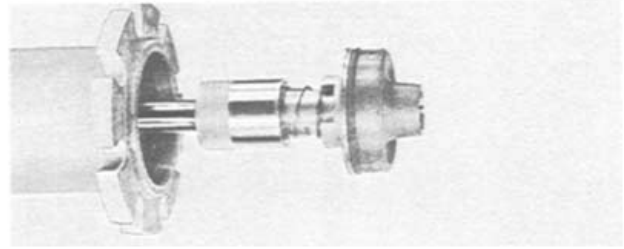
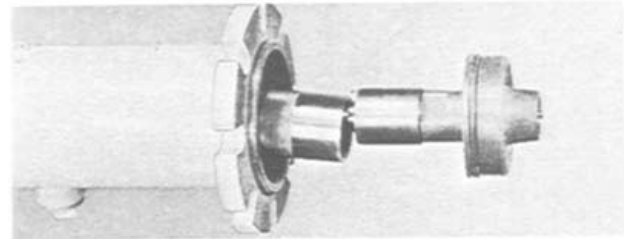

FIGURE 22
FIGURE 23
- b. Attach plug inserting tool with the completion plug to the inserting bar of the stopping machine. **Figure 22.**
- (1) Insert lug on top of plug inserting tool into matching recess or slot in inserting bar.
- (2) Screw coupler sleeve to plug inserting tool threads.
- b. Screw tool tightly into the right hand inside threads of the inserting bar. The coupler sleeve is not used with this plug inserting tool. **Figure 23.** **IMPORTANT** — The connection between the inserting tool and the inserting bar must be as tight as possible.